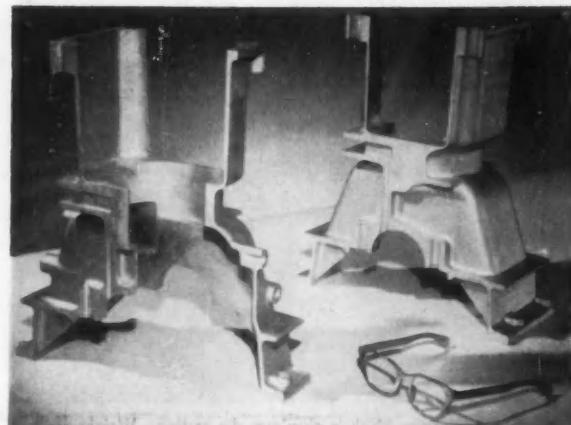

Fig. 5—Cross sections through engine block show elimination of heavy walls behind main bearings.
**DEEP POCKETS IN BOTH SIDES OF THE BLOCK**, never before shown on a gray iron casting, comprise the third basic change. These pockets are actually metal-savers to eliminate heavy metal sections behind the main bearing (Fig. 5). Long oil holes for the main bearing connect these pockets